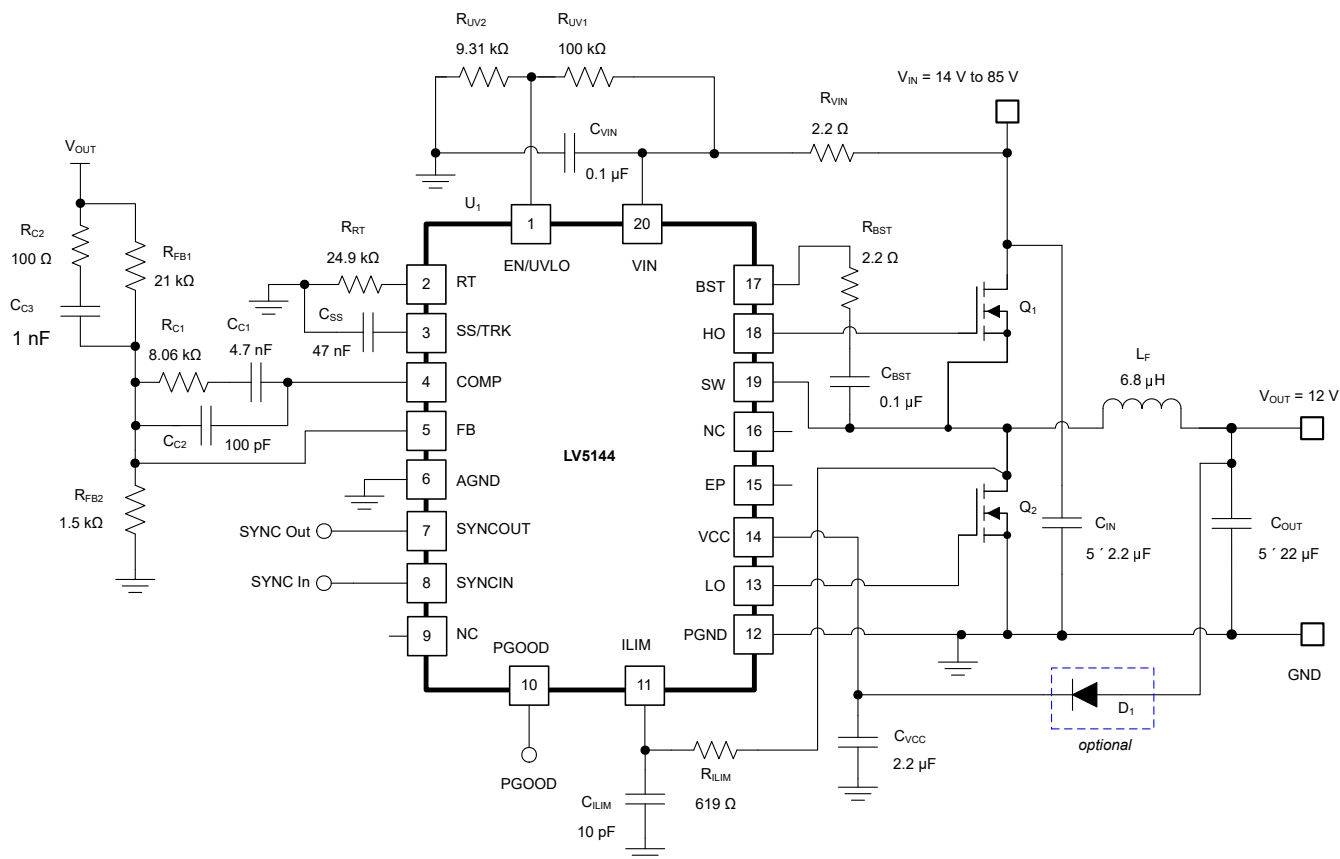

图 9-16. Application Circuit 2 With LV5144 48-V to 12-A Synchronous Buck Regulator at 400 kHz
图 9-16 shows the schematic diagram of a 400-kHz, 12-V output, 8-A synchronous buck regulator intended for 48-V telecom applications.
As shown in 图 9-16, a 2.2- Ω resistor in series with C_{BST} is used to slow the turn-on transition of the high-side MOSFET, reducing the spike amplitude and ringing of the SW node voltage and minimizing the possibility of C_{dv}/dt -induced shoot-through of the low-side MOSFET. If needed, place an RC snubber (for example, 2.2 Ω and 100 pF) close to the drain (SW node) and source (PGND) terminals of the low-side MOSFET to further attenuate any SW node voltage overshoot or ringing. Please refer to the application note Reduce Buck Converter EMI and Voltage Stress by Minimizing Inductive Parasitics for more detail.
- Placing a 2- Ω to 10- Ω resistor in series with the boot capacitor, as shown in Figure 9-16, slows down the high-side MOSFET turn-on transition, serving to reduce the voltage ringing and peak amplitude at the SW node at the expense of increased MOSFET turn-on power loss.